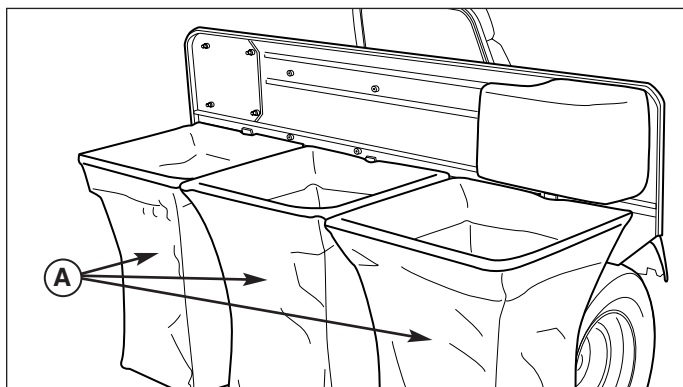

Figure 2. Remove the Bags
2. Remove the bags (A, Figure 2) by lifting them off their hooks. Empty any grass out the bags.